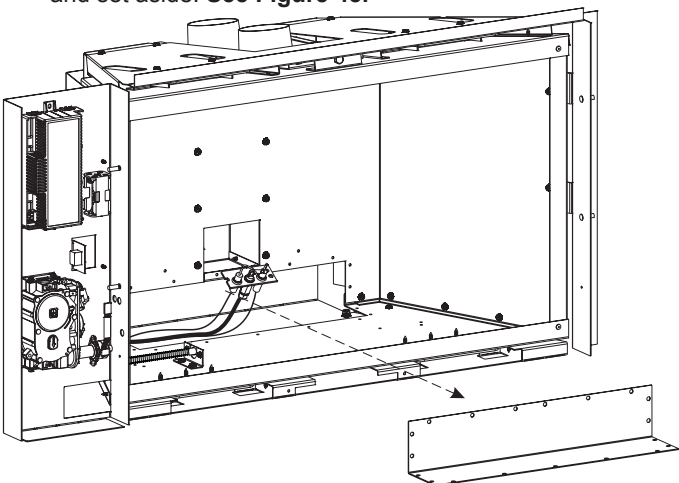

Figure 48
16. Remove the 18 screws securing the blower access panel to the firebox and set aside. Remove the blower access panel and set aside. **See Figure 48.**